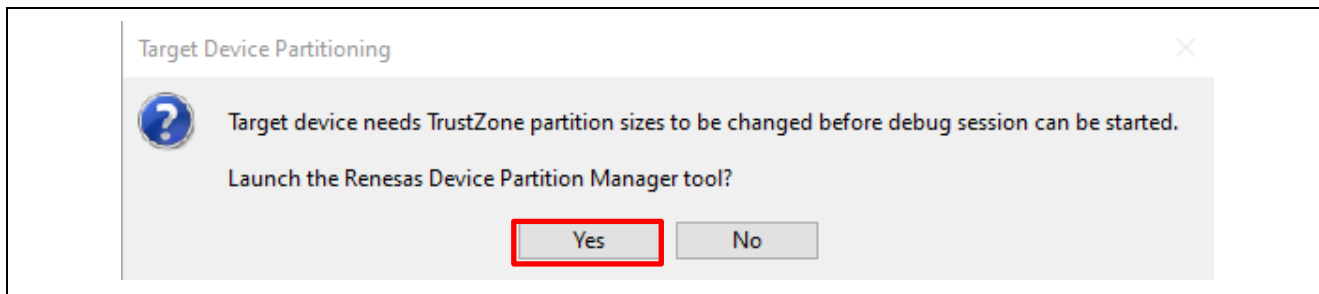

Figure 76. Choose to Launch Renesas Device Partition Manager
4. If the current MCU IDAU region setup differs from the boundary calculated from the Secure project, the window shown in Figure 76 will appear, prompting you to set up the IDAU region.